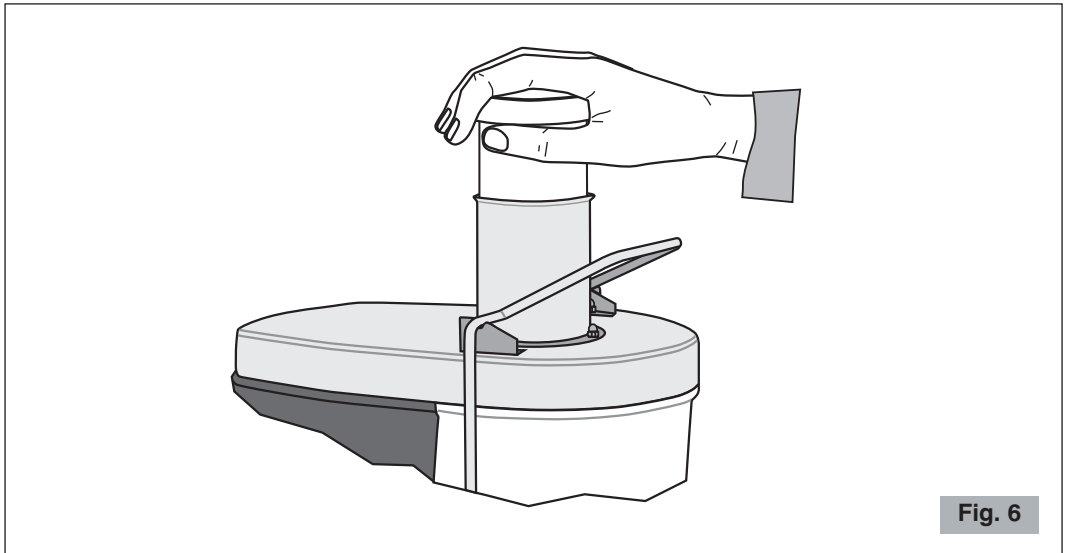

Fig. 6
- 7 With the motor in action put fruit and/or vegetables in the feed chute. Use the food pusher to gradually push down the fruit and/or vegetables towards the spinning grating disc at the bottom of the feed chute without exerting excessive pressure (see Fig. 6). To obtain more juice always press the food pusher lightly.